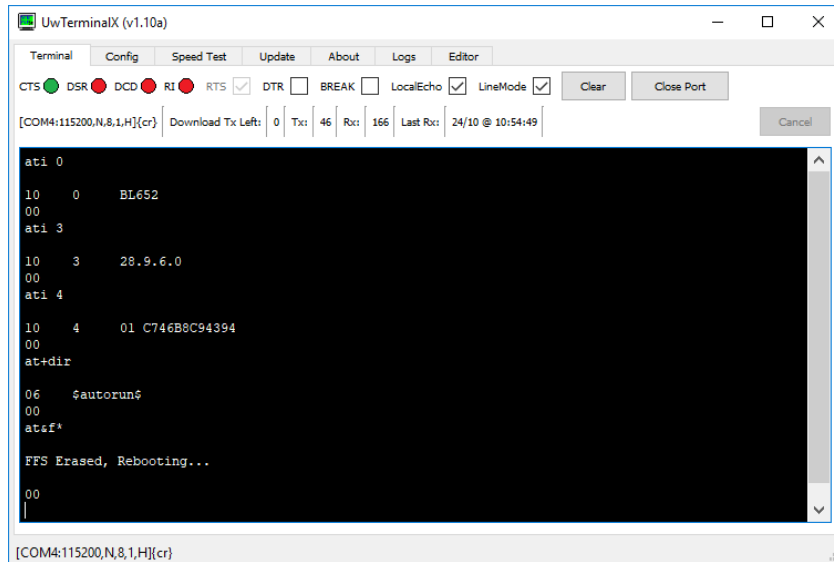

Figure 5: at+f*
9. Use **at&f*** to clear the file system and restore default settings if at+dir returns anything other than 00 (Figure 5)